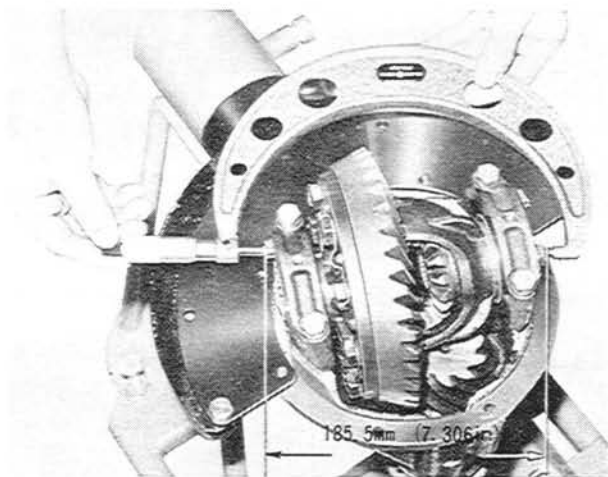

Fig. 9-29 Adjusting of preload
3. The preload on the differential bearings is obtained by tightening the adjusters. Tighten the adjusters until the distance between both pilot sections on the bearing caps becomes **185.5 mm (7.306 in)**, as shown in Fig. 9-29.